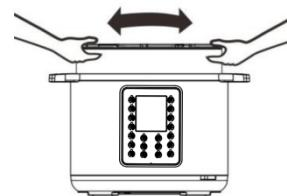

Figure 14
Be certain the inner receptacle, where the heating plate (14) is located, is clean and dry before inserting the Inner Pot (6) into the pressure cooker and adjust the pot left and right to ensure optimal contact between the Inner Pot and the heating plate (14) (Figure 14)
NOTE: You cannot adjust the Pressure Limiting Valve to the "Exhaust" position immediately after cooking, when using functions such as porridge or, soup. It is IMPORTANT that the Float Valve (5) sinks before any attempts are made to open the lid.(Figure 14)